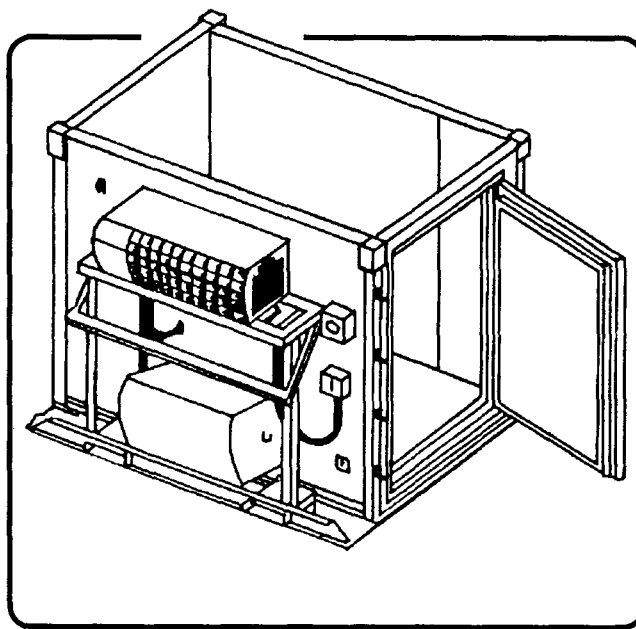

Figure 2-1. ISU-96, refrigerated container
**Equipment.** Each theater subsistence distribution activity will have organic transportation, equipment, and maintenance capabilities sized to support the modular deployment concept. They will be equipped with prefabricated storage facilities, to include chill and freeze capability. This equipment will be deployed only when there is no availability of fixed facilities in the theater. This equipment will not be deployed when the host-nation can meet sanitation and ice production requirements for the theater. MHE provided each company will include RTCH for container handling and forklifts for pallet or smaller sized packaging. The Army has adopted the ISU 96, refrigerated container (Figure 2-1) for transport and storage of perishable